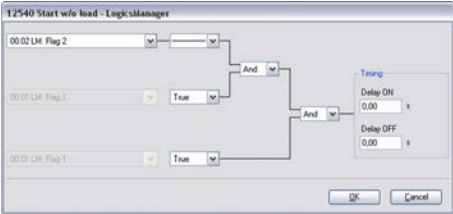

Fig. 204: LogicsManager function "Start without load"
3. ➤ The LogicsManager function "Start without load" (parameter 12540 ↵ p. 310) can be configured as shown in (Fig. 204).